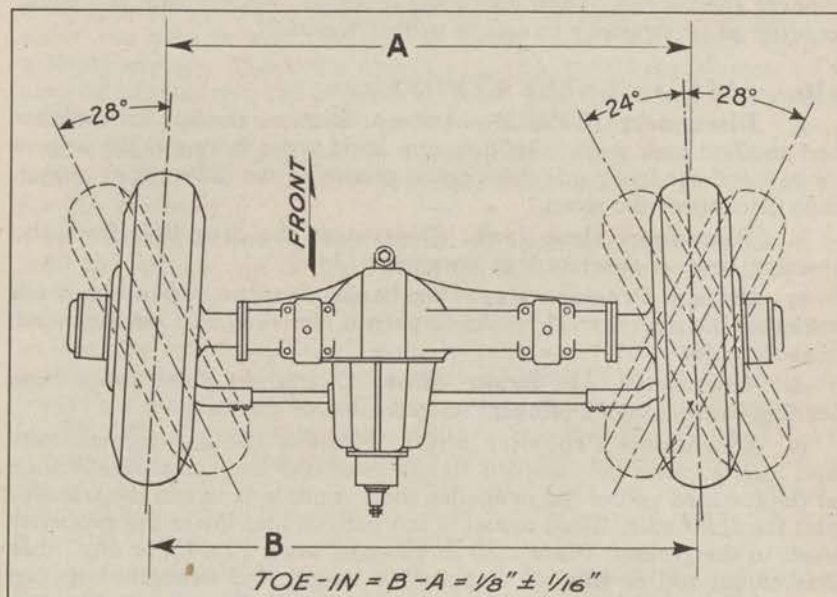

Figure 111—Toe-In
a. **General.** Toe-in is measured as the distance that the front wheels are closer together at the front than at the rear, or it is the amount that the wheels are "pigeon-toed" at the front. This is easily seen by reference to figure 111, in which toe-in is dimension "B" minus
(3) **CHECK TOE-IN ADJUSTMENT.** Measure the distance indicated as dimension "A" in figure 111 at a point directly opposite the center of the wheel. Then measure dimension "B" at a point directly opposite